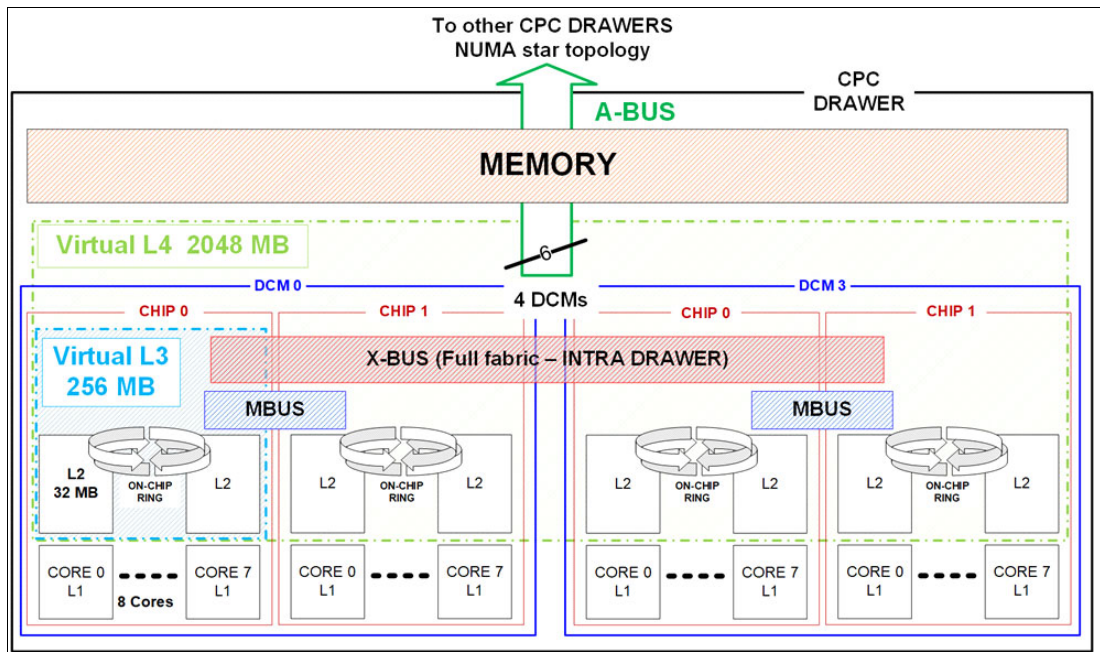

Figure 9-5 IBM z16 CPC Drawer Cache structure
IBM z16 processor memory and cache structure are shown in Figure 9-5. The physical L3 cache (on chip) and System Controller (SC) SCM (physical L4 cache for IBM z15), which was implemented in EDRAM, were removed and replaced on IBM z16 virtual L3 and L4 cache structure.